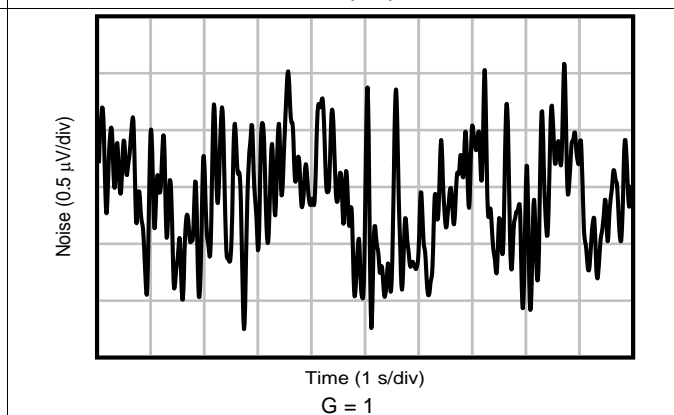

Figure 24. 0.1-Hz to 10-Hz RTI Voltage Noise G = 1
0.1-Hz to 10-Hz RTI Voltage Noise $G = 1$	Figure 24